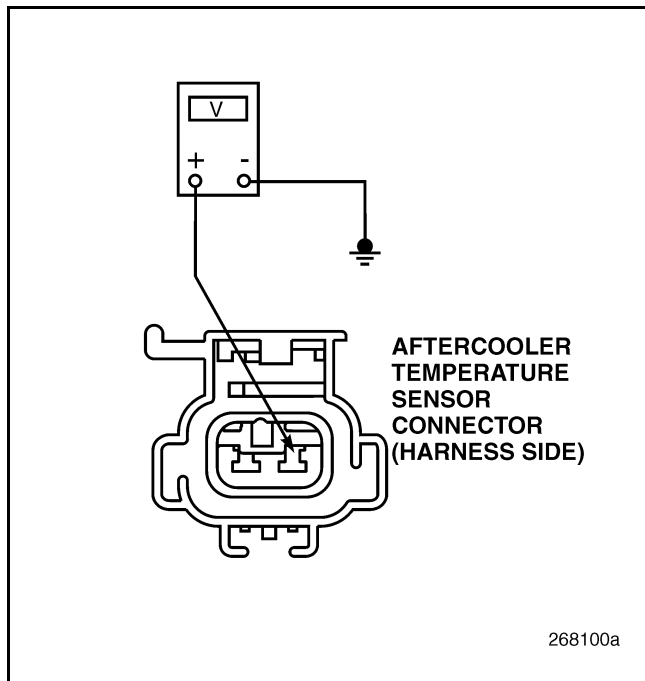

Figure 803
3. Measure the voltage between AOT Sensor harness connector pin 1 and a good ground (see Figure 803).